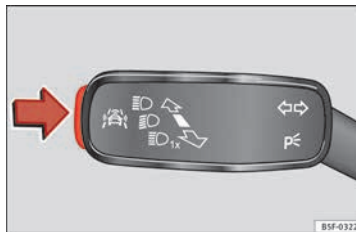

Fig. 45 On the turn signal and main beam headlight lever: button for the driving assistance systems
- Briefly press the button » Fig. 45 in the direction of the arrow to open the menu **Assist systems**.